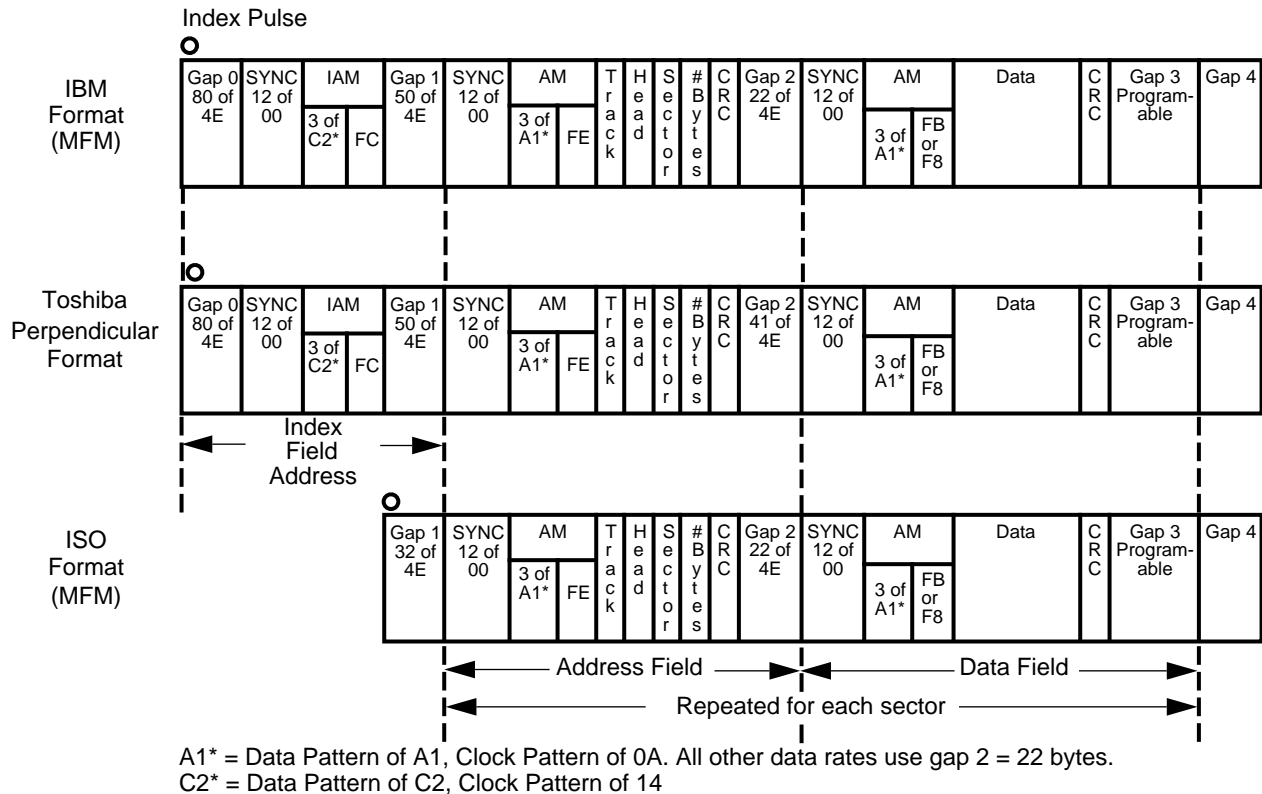

FIGURE 5-20. IBM, Perpendicular, and ISO Formats Supported by the FORMAT TRACK Command
After a pulse from the INDEX signal is detected, data patterns are written on the disk including all gaps, Address Marks (AMs), address fields and data fields. See Figure 5-20.
b. Gap 3 is the suggested value for the programmable GAP3 that is used in the FORMAT TRACK command and is illustrated in Figure 5-20.
Figure 5-20 illustrates the track format for each of the formats recognized by the FORMAT TRACK command.
b. Gap 3 is the suggested value for use in the FORMAT TRACK command. This is the programmable Gap 3 illustrated in Figure 5-20.